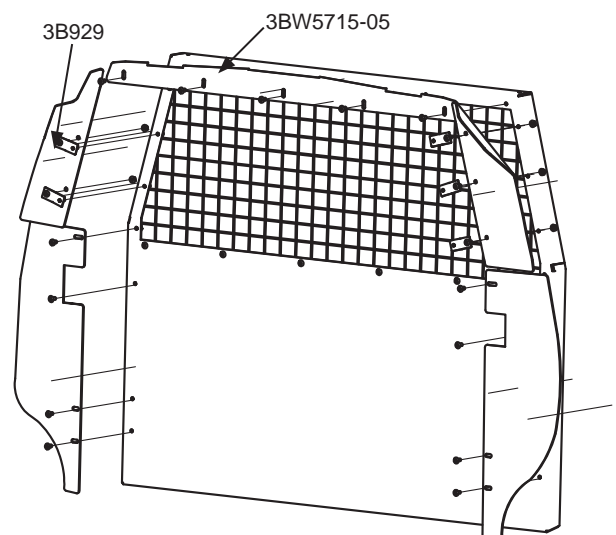

Fig. 4
- A. Attach the top polycarbonate panel (3BW5715-05) to the top of the barrier using the existing bolts from the top of the window frame. Adjust panel to suit, and secure fasteners. (Fig. 4)
- B. Remove the (3) 3X16 nuts and 3X03 bolts located on the upper portion of the drivers side of the barrier. Place bracket 3B929 on the front side of the barrier and secure using the bolts and nuts that were removed (repeat for the passenger side, only using the lower (2) hole locations).